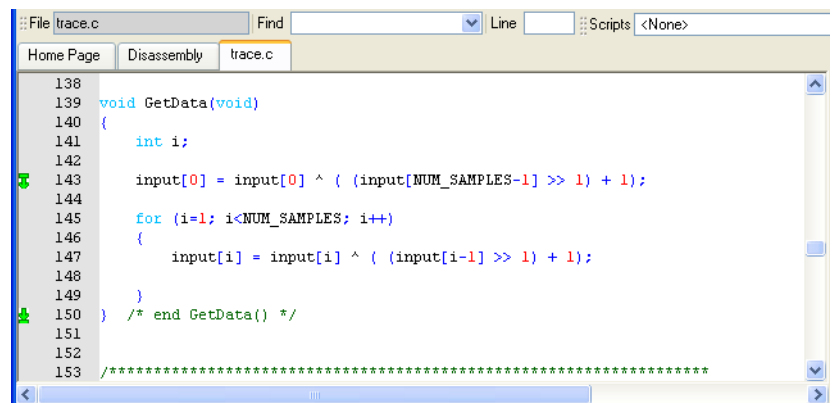

Figure 10-17 Trace End Point set at end of a function
- e. Click **OK**. The dialog box closes, and the Trace End Point is set as indicated by the green arrow . Figure 10-17 shows an example: